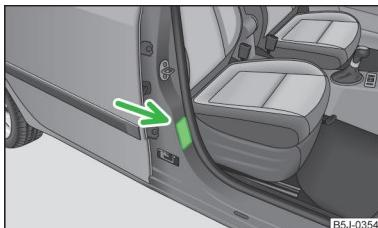

Fig. 13
- On the B-column on the front passenger side » Fig. 13. The sticker is visible when opening the front passenger door.